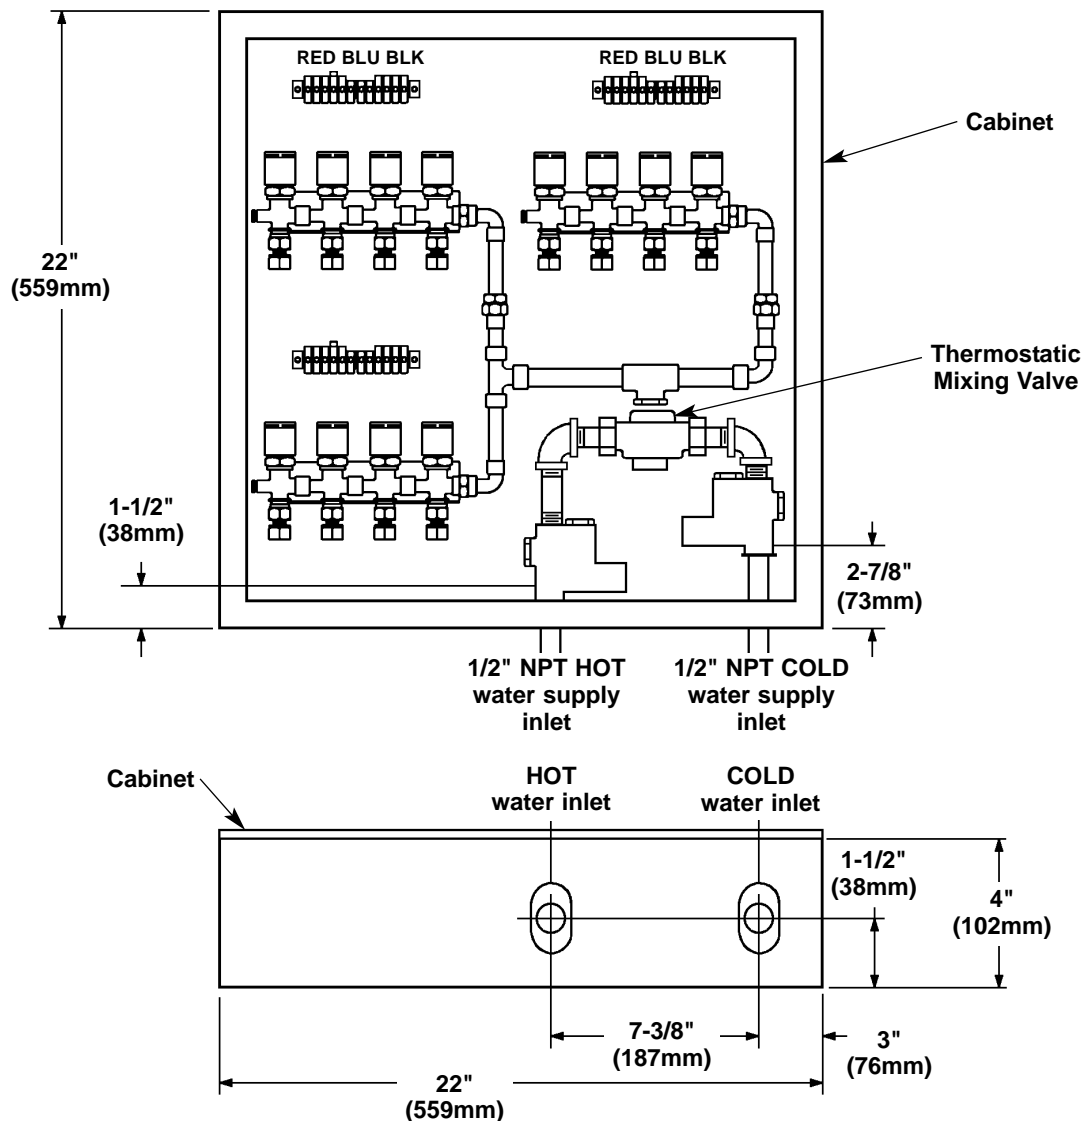

Figure 1
2. Rough-in hot and cold 1/2" NPT water supply to the cabinet's thermostatic mixing valve location (see Figure 1 for dimensions).
4. Make 1/2" NPT supply connections to the thermostatic mixing valve (piping and fittings supplied by installer) (see Figure 1).
NOTE: Refer to Figure 2 for 900 Series Futura faucets when replacing tubing and wiring connections. Figure 1 on page 2 illustrates components that are pre-wired and provided with the cabinet. Additional wire and tubing supplied by installer.